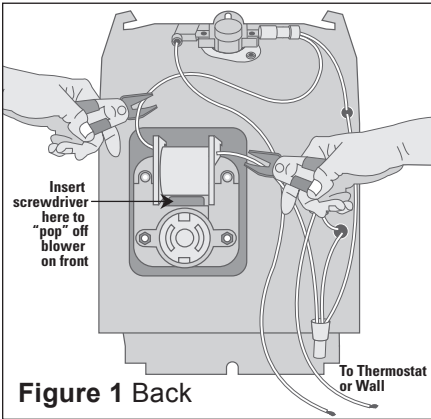

Figure 1 Back
- C. Cut motor wires (back of heater) as close to motor as possible. Strip 1/2" of insulation from remaining wires (See Figure 1.)
7. Remove blower from front by inserting screwdriver through center portion of motor in back of heatbox and giving a quick "pop" to the blower (Figure 1). Be careful not to bend heating element or damage fan blower.